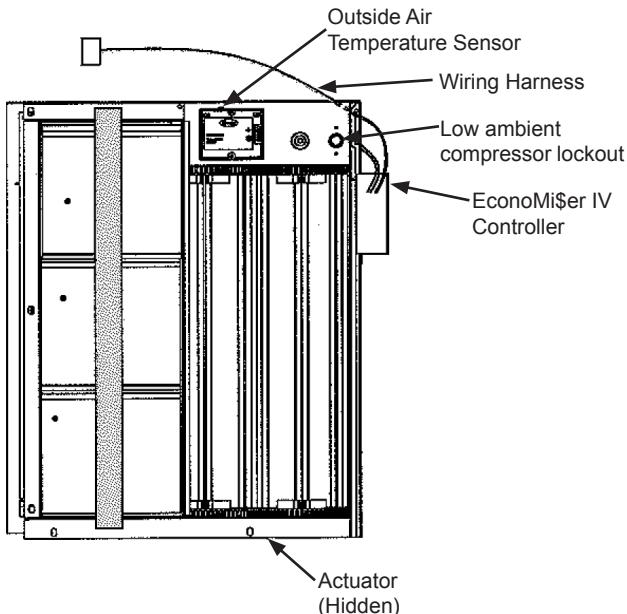
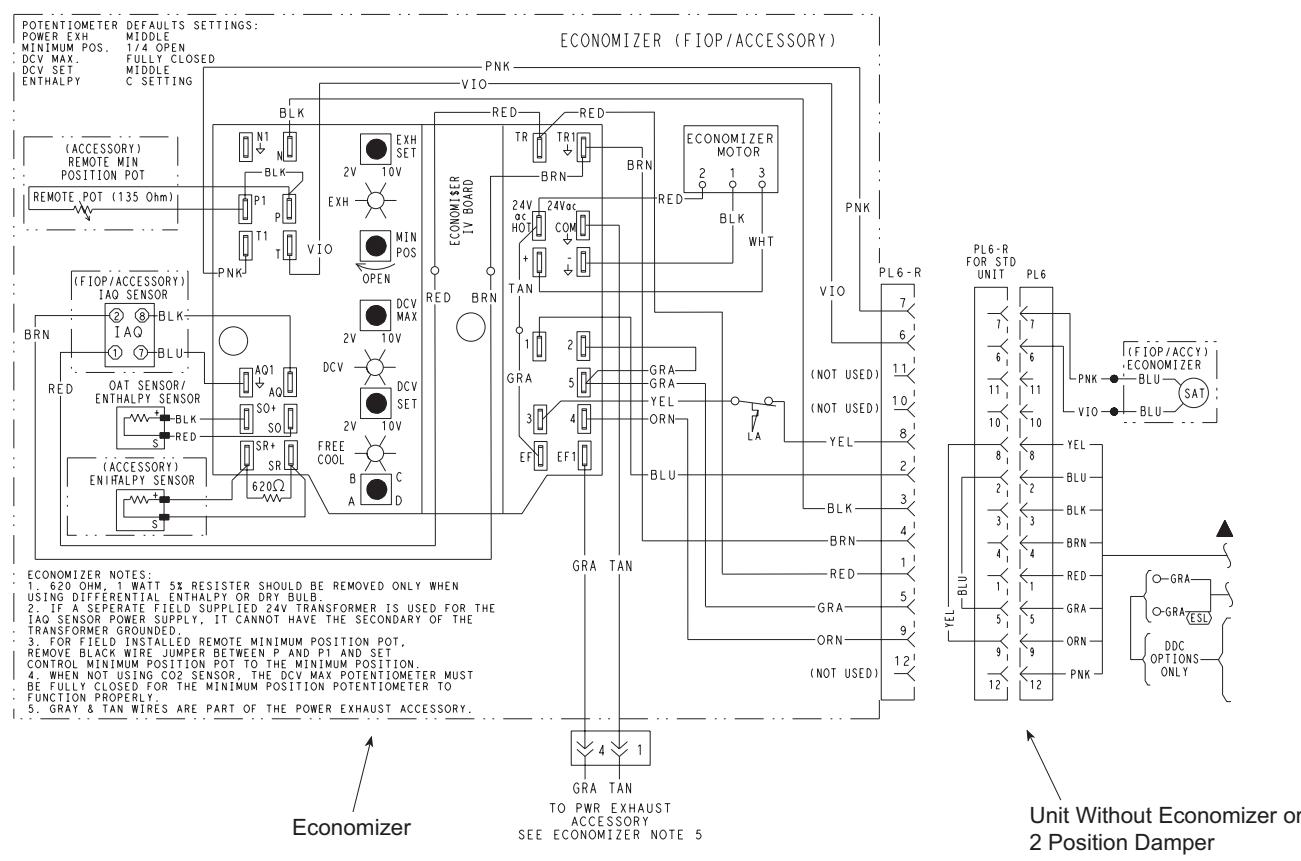
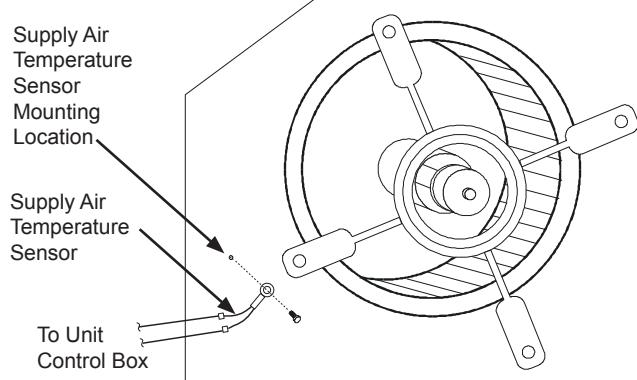
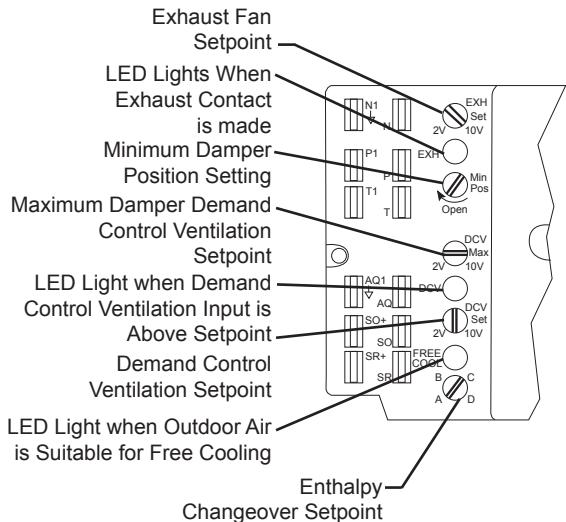

Fig. 1 - EconoMi\$er IV Component Locations
Fig. 8 - EconoMi\$er IV Wiring
Fig. 10 - Supply Air Sensor Installation Location
Fig. 14 - EconoMi\$er IV Controller Potentiometer and LED Locations
6. If EconoMi\$er IV will be operating under enthalpy control, replace the factory installed outdoor dry bulb temperature sensor with accessory enthalpy sensor HH57AC078. (See Fig. 1.)
12. Remove and save the 12-pin jumper plug from the unit wiring harness (located in the upper left corner of the unit). Insert the EconoMi\$er IV plug into the unit wiring harness. Refer to Fig. 8 for wiring diagram.
14. The supply air temperature sensor looks like an eyelet terminal with wires running to it. The sensor is located on the “crimp end” and is sealed from moisture. Mount the supply air temperature sensor (provided) to the lower left section of the indoor fan blower housing. (See Fig. 10.) Use the screw provided and use existing hole. Connect the violet and pink wires to the corresponding connections on the supply air temperature sensor. (See Fig. 8.)
OCCUPANCY CONTROL (R22 MODELS) — The factory default configuration for the EconoMi\$er IV control is occupied mode. Occupied status is provided by the black wire from Pin 3. When unoccupied mode is desired, install a field supplied timeclock function interrupting the black wire to the N terminal. (See Fig. 8) When the timeclock contacts
SUPPLY AIR TEMPERATURE (SAT) SENSOR — The supply air temperature sensor is a 3 K thermistor located at the inlet of the indoor fan. (See Fig. 10) This sensor is field installed. The operating range of temperature measurement is 0° to 158° F. See Table 5 for sensor temperature/resistance values. The temperature sensor looks like an eyelet terminal with wires running to it. The sensor is located in the “crimp end” and is sealed from moisture.
LOW TEMPERATURE COMPRESSOR LOCKOUT SWITCH — The EconoMi\$er IV is equipped with a low ambient temperature lockout switch located in the outdoor airstream which is used to lock out the compressors below a 42° F ambient temperature. (See Fig. 1)
OUTDOOR ENTHALPY CHANGE OVER — For enthalpy control, accessory enthalpy sensor (part number HH57AC078) is required. Replace the standard outdoor dry bulb temperature sensor with the accessory enthalpy sensor in the same mounting location. (See Fig. 1) When the outdoor air enthalpy rises above the outdoor enthalpy changeover set point, the outdoor-air damper moves to its minimum position. The outdoor enthalpy changeover set point is set with the outdoor enthalpy set point (ABCD) potentiometer on the EconoMi\$er IV controller. The set points are A, B, C, and D (See Figs. 14, 17 & 18). The factory-installed 620-ohm jumper must be in place across terminals SR and SR+ on EconoMi\$er IV controller. (See Fig. 8). When not using CO2 sensors, set the DCV Max potentiometer to completely closed (CCW) to insure that the Minimum Position potentiometer functions correctly.
DIFFERENTIAL ENTHALPY CONTROL — For differential enthalpy control, the EconoMi\$er IV controller uses two enthalpy sensors, HH57AC078 in the outside air and CRENTDIF004A00 in the return airstream. The EconoMi\$er IV controller compares the outdoor air enthalpy to the return air enthalpy to determine EconoMi\$er IV damper position. The controller selects the lower enthalpy air (return or outdoor) for cooling. For example, when the outdoor air has a lower enthalpy than the return air, the EconoMi\$er IV opens to bring in outdoor air for free cooling. Replace the standard outside air dry bulb temperature sensor with the accessory enthalpy sensor in the same mounting location. (See Fig. 1) Mount the return air enthalpy sensor in the return air duct. (See Fig. 8 and 16) When using this mode of changeover control, turn the outdoor enthalpy set point (ABCD) potentiometer fully clockwise to the D setting.
POWER EXHAUST SET POINT ADJUSTMENT — If the optional power exhaust accessory is installed, the exhaust set point will determine when the power exhaust fan runs based on damper position. The set point is modified with the Exhaust Fan Set Point (EXH SET) potentiometer. (See Fig. 14) The set point represents the damper position above which the exhaust fans will be turned on. When there is a call for exhaust, the EconoMi\$er IV controller provides a 45 ± 15 second delay before exhaust fan activation to allow the dampers to open. This delay allows the damper to reach the appropriate position to avoid unnecessary fan overload.
MINIMUM DAMPER POSITION CONTROL — There is a minimum damper position potentiometer on the EconoMi\$er IV controller. (See Fig. 14). Adjust the Min Pos potentiometer to allow the minimum or base amount of outdoor air, as required by local codes, to enter the building. Make minimum position adjustments with at least 10°F temperature difference between the outdoor and return-air temperatures. The minimum damper position maintains the minimum airflow for full occupancy into the building during the occupied period when demand control ventilation is not being used.